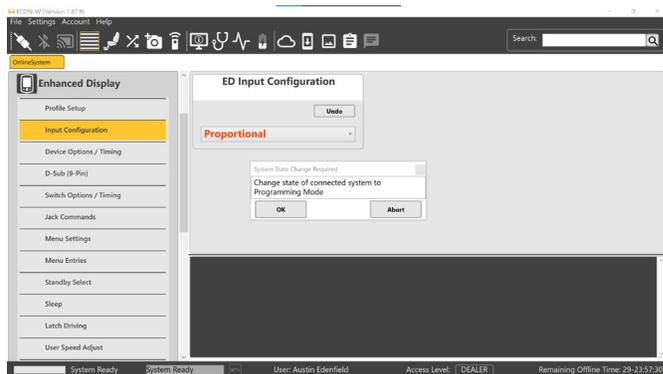

Figure 9. Input Calibration
10. Select Input Configuration under the Enhanced Display tab. Set the ED Input Configuration in the drop down menu to Proportional. Press OK to enter Programming Mode. **See figure 9.**